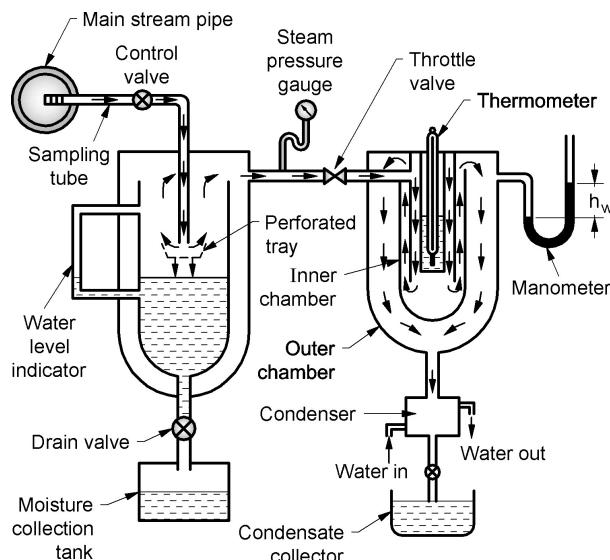

Fig. 9.1 Combined separating and throttling calorimeter
- In order to overcome above limitations and for accurate measurement of dryness fraction of wet steam, a combined separating and throttling calorimeter is used as shown in Fig. 9.1.